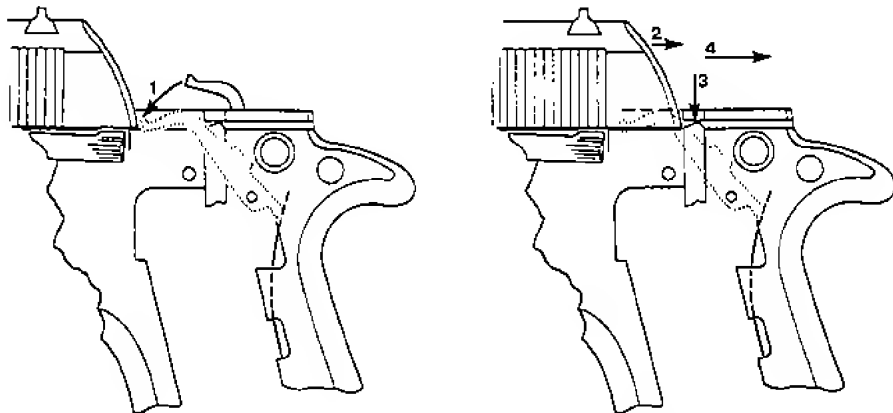

Figure 11 — ASSEMBLING SLIDE TO RECEIVER (A&B)
**(A&B)** See Figure 11. If the ejector is sticking up, gently push it down until it is just below the level of the receiver rail (Step 1). This will allow the slide to pass over it (Step 2).